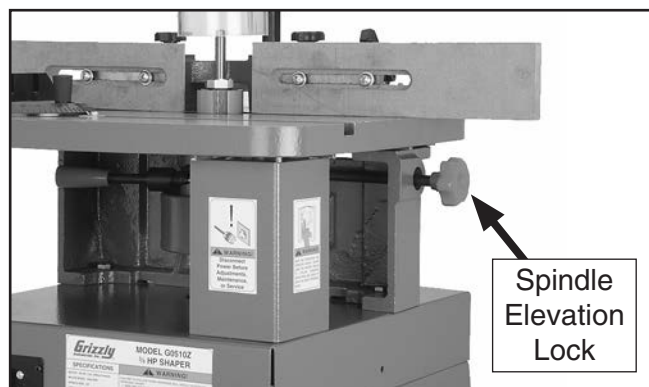

Figure 20. Spindle elevation lock knob.
1. Loosen spindle elevation lock shown in **Figure 20**.